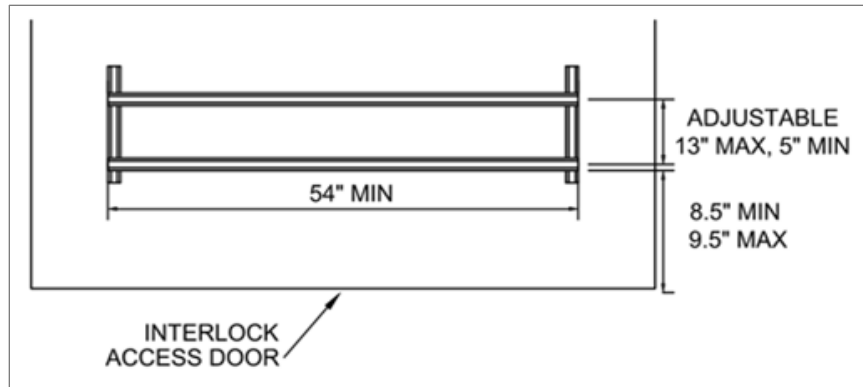

Figure 13: VT Mounting for 12.47 kV and 34.5 kV (STD-M-3003)
- VT mounting base spacing must meet the requirements of EUSERC 407, as shown in **Figure 13**.
For 12.47 kV services, the VT compartment must meet the clearances shown in **Figure 13**.